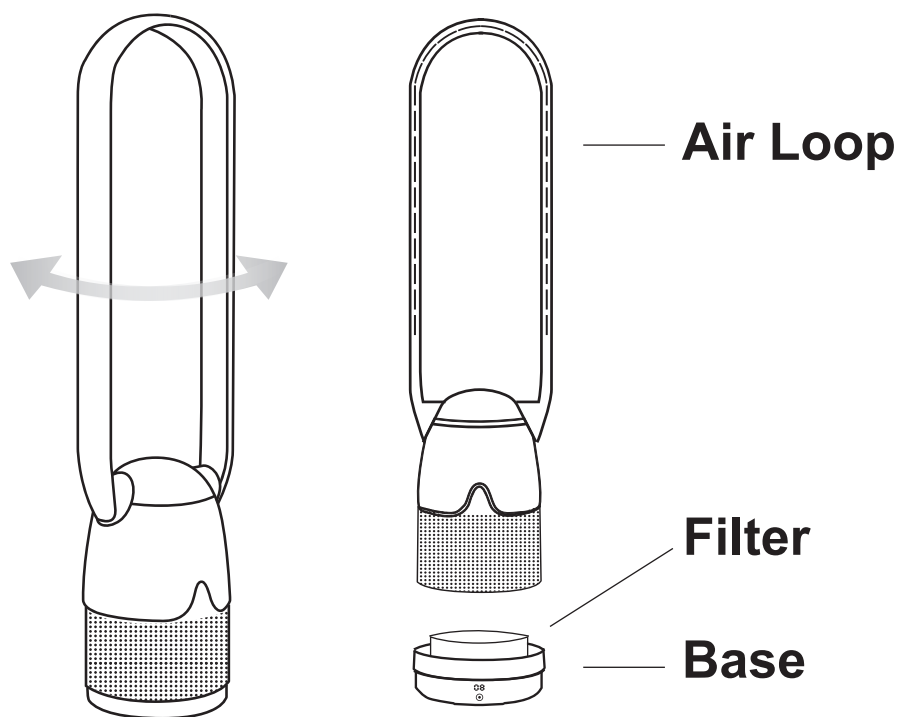
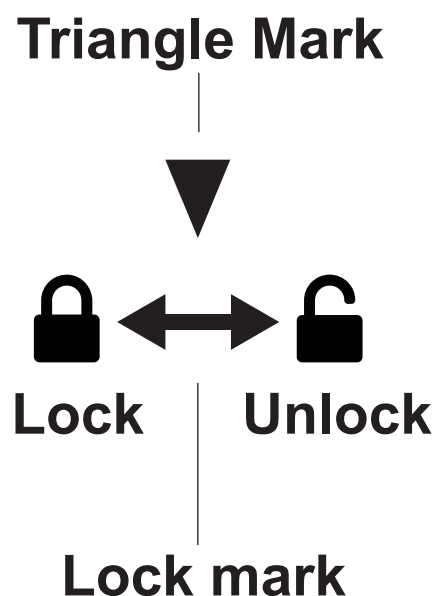

Fig. 2.1
Fig. 2.2
1. Align the fan loop vertically with the fan base. Make sure to also align the triangle mark, found on the silver portion of the fan loop, to the unlock symbol of the fan base. There will be tabs on the bottom of the fan loop that will allow it to slide into the fan base. (**Refer to Fig. 2.1 & Fig. 2.2**).